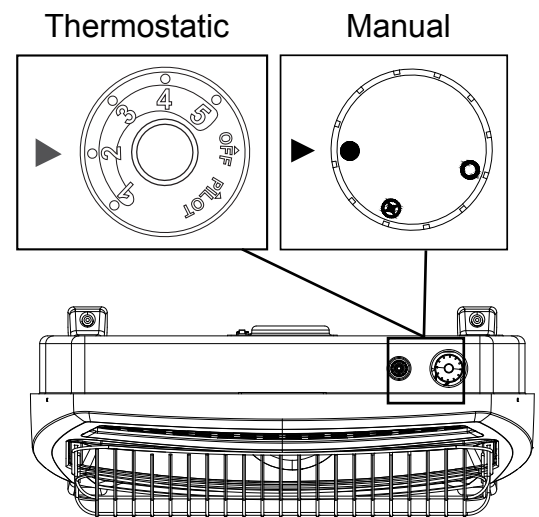

Fig. 25 - Control Knob Position
The thermostat used on this heater senses the room temperature. At times the room may exceed the set temperature. If so, the burner will shut off. The burner will cycle back on when room temperature drops below the set temperature. The control knob can be set to any comfort level between "HIGH" (5) and "LOW"(1) (See Fig. 25).
Manual valves remain burning in the HIGH "●" setting until manually turned to OFF "○"(See Fig. 25).